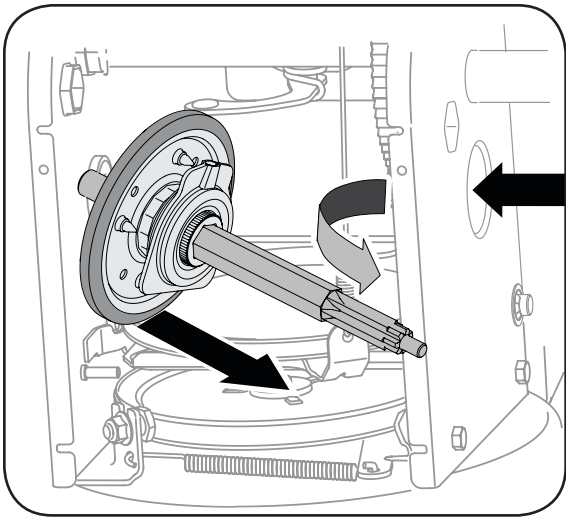

Figure 6-12
5. Carefully position the hex shaft downward and to the left before carefully sliding the friction wheel assembly off the shaft. See Figure 6-12.